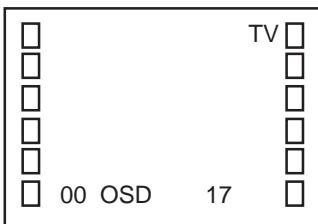

Fig. 1-1
1. In the condition of NO indication on the screen. Press the VOL. DOWN button on the set and the Channel button (9) on the remote control for more than 2 seconds to appear the adjustment mode on the screen as shown in **Fig. 1-1**.
4. Activate the adjustment mode display of **Fig. 1-1** and press the channel button (01) on the remote control to select "CUT OFF".
4. Activate the adjustment mode display of **Fig. 1-1** and press the channel button (10) on the remote control to select "R.BIAS".